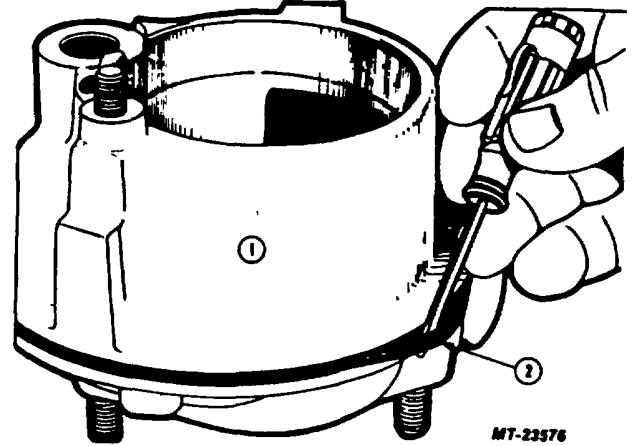

Fig. 42 Housing-to-Reservoir Gasket
- 21. Install a new pump housing-to-reservoir O-ring in the pump housing groove, Figure 42. Gasket should be installed with color side out.